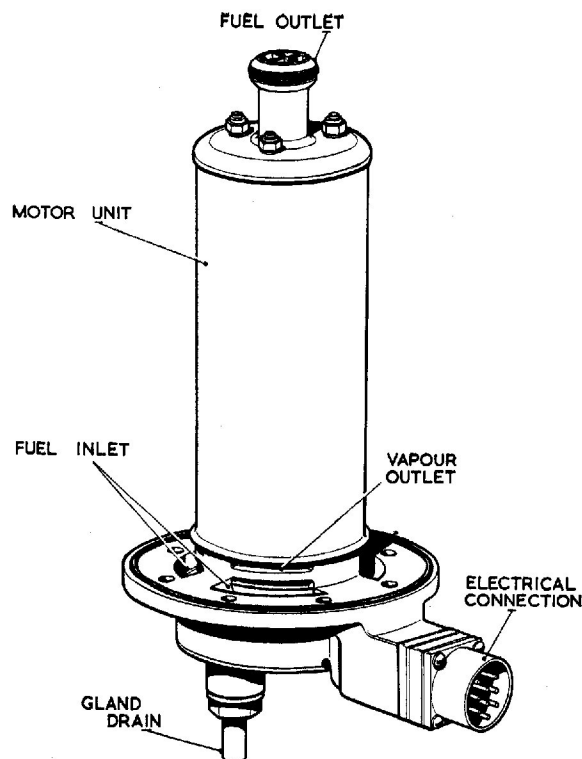

Fig. 1. General view of Type PAC. 100 fuel pump
4. General and sectional arrangements of a typical pump are illustrated in Fig. 1 and 2. The unit comprises mainly an a.c. motor unit with extended rotor shaft driving a centrifugal high-altitude type impeller. The motor